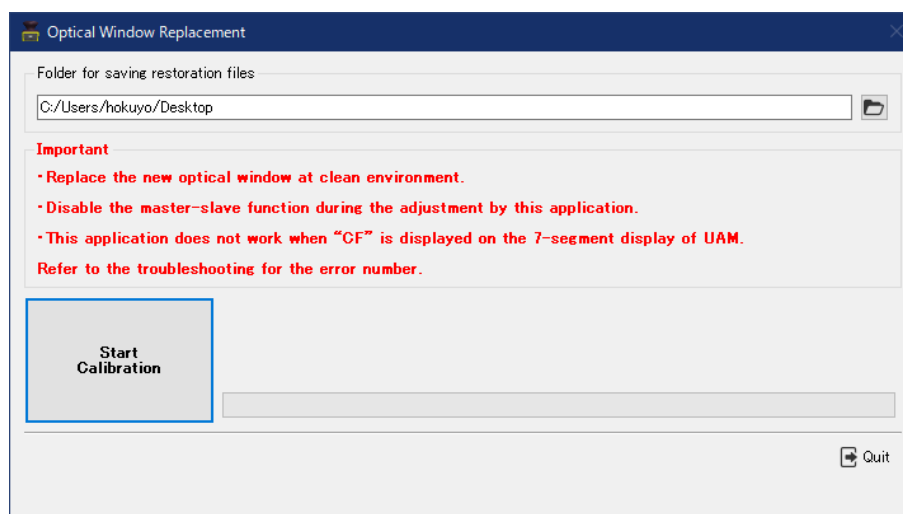

Figure 8-2 Optical Window Adjuster
- a) Connect UAM with the Project Designer and switch the device to setting mode. From the menu, select [Options] → [Optical Window Replacement] to open the optical window replacement tool as shown in Figure 8-2